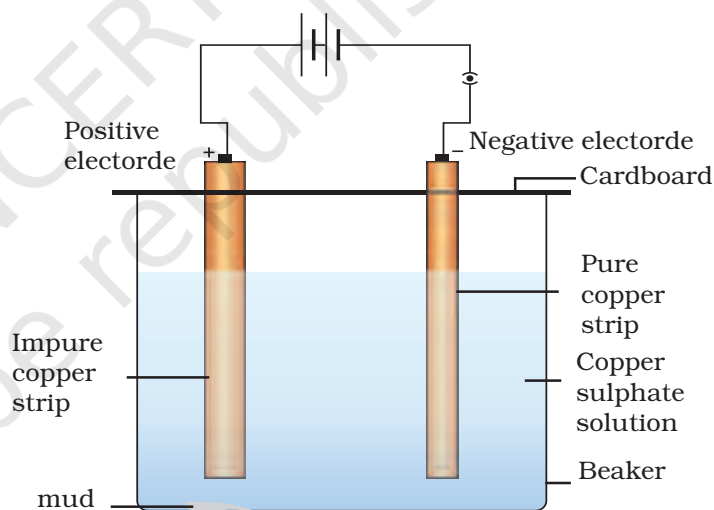

Fig. 16.1 : An electrolysis process
4. Connect two wires with the two copper strips to be considered as positive electrode (impure copper strip) and negative electrode (pure copper strip). Pass these strips through the two holes of the cardboard (Fig. 16.1).
5. Connect the two copper strips with a combination of two dry cells (in a cell holder) through a plug key as shown in Fig. 16.1.